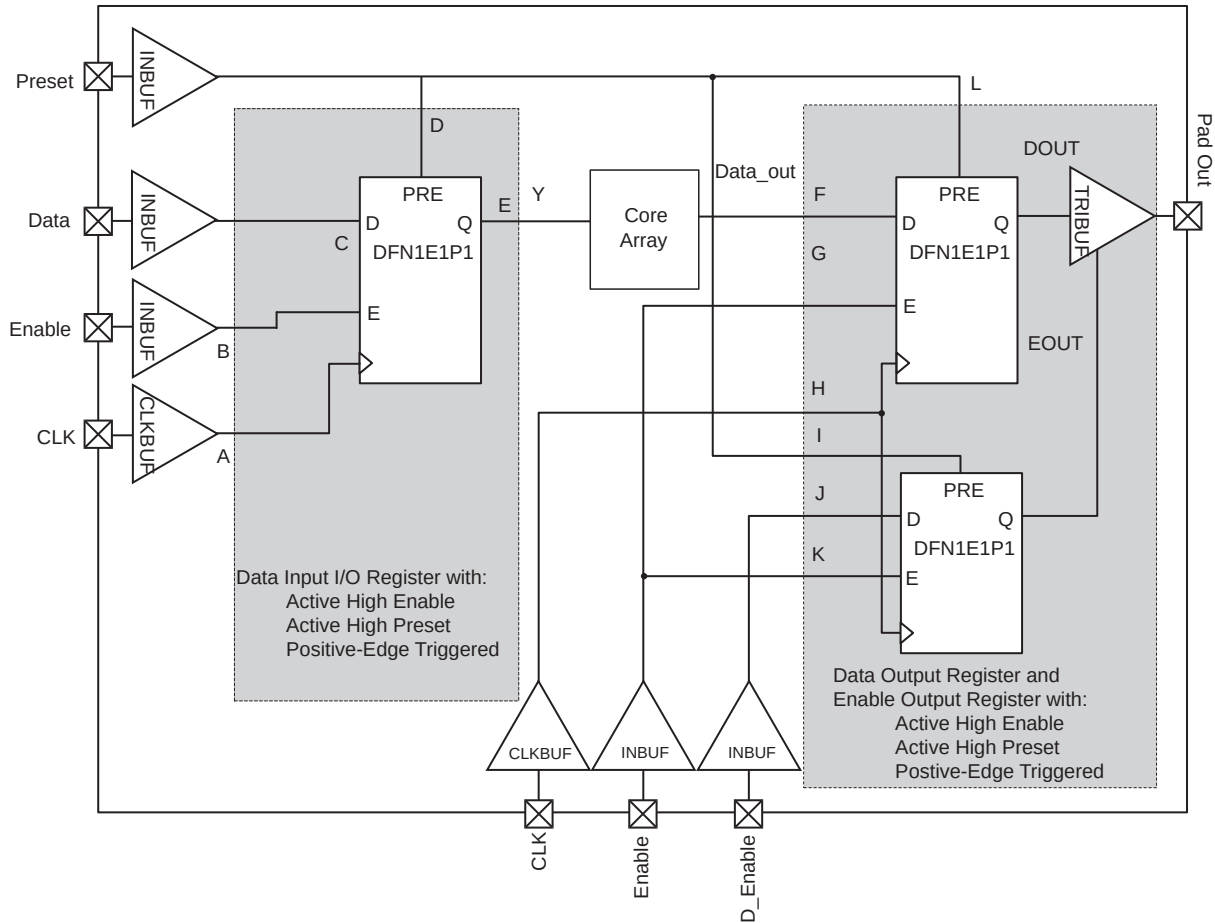

Figure 2-16 • Timing Model of Registered I/O Buffers with Synchronous Enable and Asynchronous Preset
**Note:** \*See Figure 2-16 on page 2-84 for more information.